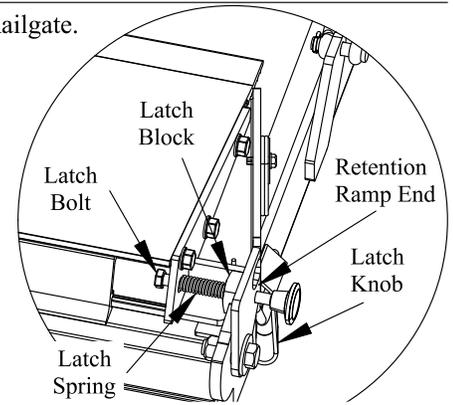

Figure 1: Latch assembly parts.
3. **Loosen** the Latch Bolt inside the Retention Ramp, but do not remove it at this time (Figures 1 and 2).
4. **Loosen** the Latch Knob and **Remove** it from the Latch Block (Figures 1 and 2).
5. **Remove** the Latch Bolt, freeing the Latch Spring and Latch Block (Figures 1 and 2).